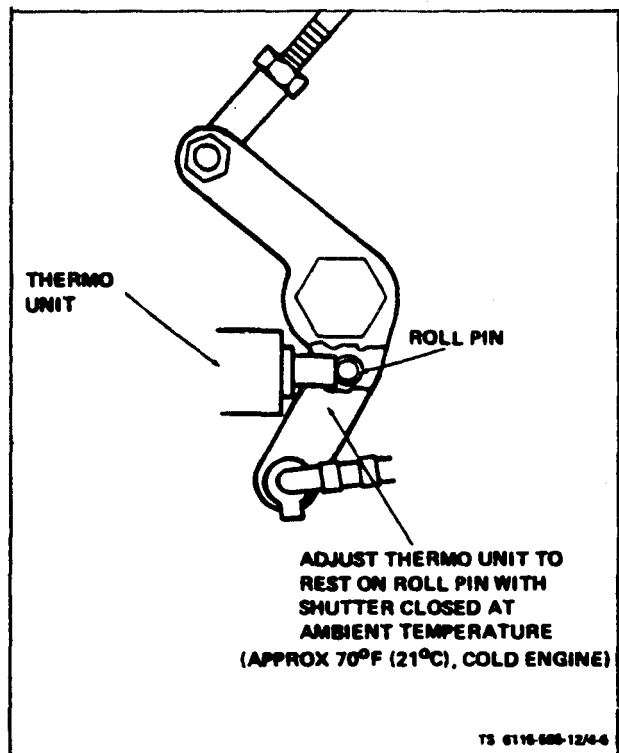

Figure 4-6. Adjusting Thermo Unit
(2) Thermo Unit (see figure 4-6). With Generator Set at 70°F, (21°C) loosen thermo unit guide-mounting screws, the mounting holes in the shutter box are slotted. Slide the assembly to a position where the thermo unit plunger rests on roll pins with shutters closed. Tighten mounting screws.